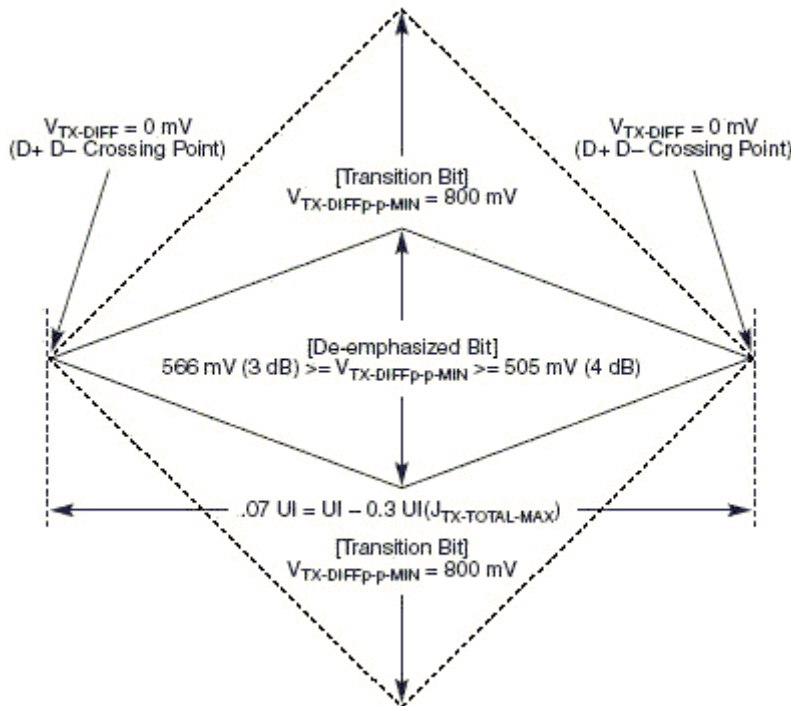
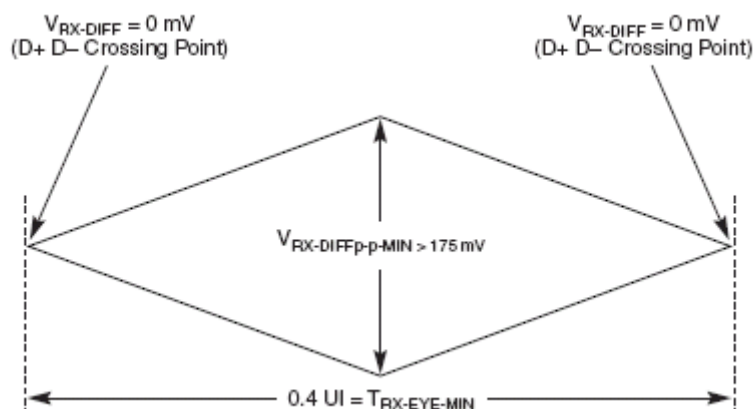
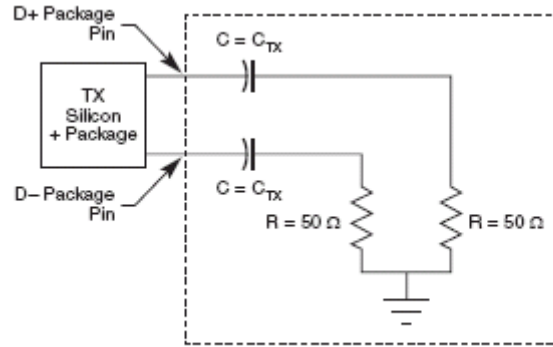

Figure 49. Minimum Transmitter Timing and Voltage Output Compliance Specifications
Figure 50. Minimum Receiver Eye Timing and Voltage Compliance Specification
Figure 51. Compliance Test/Measurement Load
2. Specified at the measurement point into a timing and voltage compliance test load as shown in Figure 51 and measured over any 250 consecutive TX UIs. (Also refer to the transmitter compliance eye diagram shown in Figure 49)
4. The Transmitter input impedance shall result in a differential return loss greater than or equal to 12 dB and a common mode return loss greater than or equal to 6 dB over a frequency range of 50 MHz to 1.25 GHz. This input impedance requirement applies to all valid input levels. The reference impedance for return loss measurements is 50Ω to ground for both the D+ and D- line (that is, as measured by a Vector Network Analyzer with 50 ohm probes—see Figure 51). Note that the series capacitors C_{TX} is optional for the return loss measurement.
5. Measured between 20-80% at transmitter package pins into a test load as shown in Figure 51 for both V_{TX-D+} and V_{TX-D-} .
The TX eye diagram in Figure 49 is specified using the passive compliance/test measurement load (see Figure 51) in place of any real PCI Express interconnect + RX component.
2. Specified at the measurement point and measured over any 250 consecutive UIs. The test load in Figure 51 should be used as the RX device when taking measurements (also refer to the Receiver compliance eye diagram shown in Figure 50). If the clocks to the RX and TX are not derived from the same reference clock, the TX UI recovered from 3500 consecutive UI must be used as a reference for the eye diagram.
4. The Receiver input impedance shall result in a differential return loss greater than or equal to 15 dB with the D+ line biased to 300 mV and the D- line biased to -300 mV and a common mode return loss greater than or equal to 6 dB (no bias required) over a frequency range of 50 MHz to 1.25 GHz. This input impedance requirement applies to all valid input levels. The reference impedance for return loss measurements for is 50 ohms to ground for both the D+ and D- line (that is, as measured by a Vector Network Analyzer with 50 ohm probes—see Figure 51). Note: that the series capacitors CTX is optional for the return loss measurement.
The RX eye diagram in Figure 50 is specified using the passive compliance/test measurement load (see Figure 51) in place of any real PCI Express RX component.
Note: In general, the minimum Receiver eye diagram measured with the compliance/test measurement load (see Figure 51) will be larger than the minimum Receiver eye diagram measured over a range of systems at the input Receiver of any real PCI Express component. The degraded eye diagram at the input Receiver is due to traces internal to the package as well as silicon parasitic characteristics which cause the real PCI Express component to vary in impedance from the compliance/test measurement load. The input Receiver eye diagram is implementation specific and is not specified. RX component designer should provide additional margin to adequately compensate for the degraded minimum Receiver eye diagram (shown in Figure 50) expected at the input Receiver based on some adequate combination of system simulations and the Return Loss measured looking into the RX package and silicon. The RX eye diagram must be aligned in time using the jitter median to locate the center of the eye diagram.
The reference impedance for return loss measurements is 50. to ground for both the D+ and D- line (that is, as measured by a Vector Network Analyzer with 50. probes—see Figure 51). Note that the series capacitors, CTX, are optional for the return loss measurement.
The AC timing and voltage parameters must be verified at the measurement point, as specified within 0.2 inches of the package pins, into a test/measurement load shown in Figure 51.